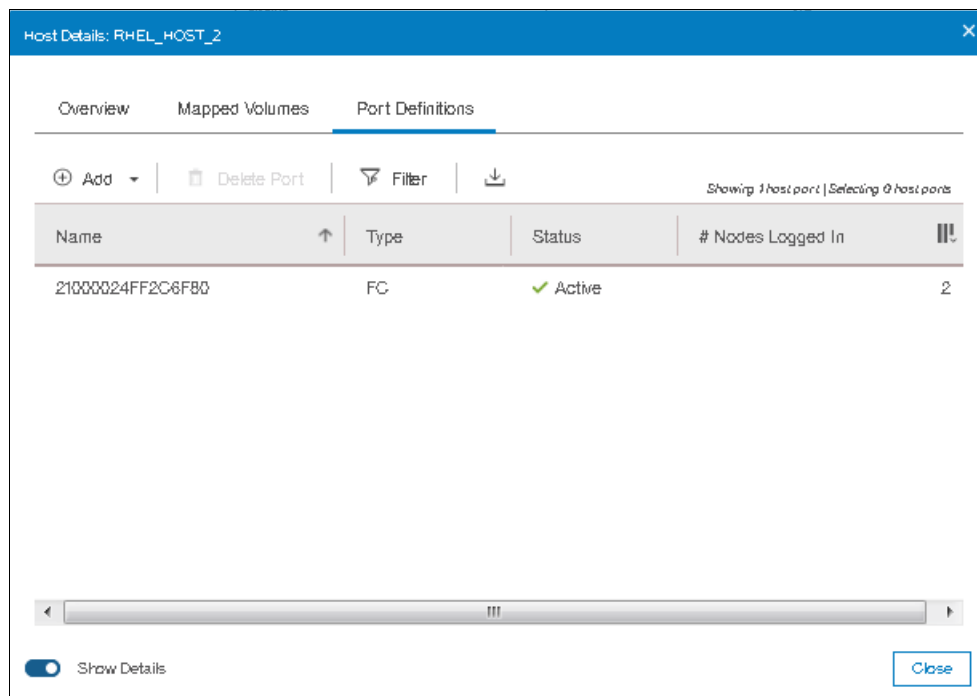

Figure 8-41 Host ports after deletion of a port.
5. A window will be shown with the current ports for the selected host as shown in Figure 8-41.